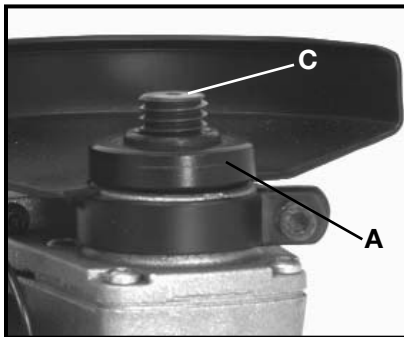

Fig. 5
4. Position inner blade flange (A) Fig. 5, onto spindle (C), with round hub facing outward, away from machine. Rotate flange until it drops into place on the spindle.